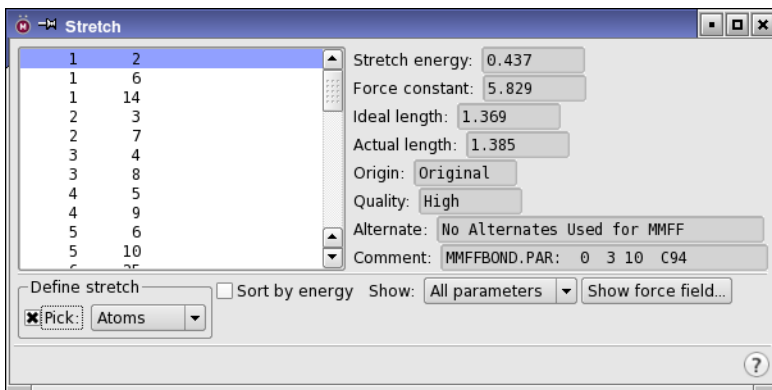

Figure 3.3. The Stretch panel.
3. Click Stretch to open the Stretch panel (see Figure 3.3).